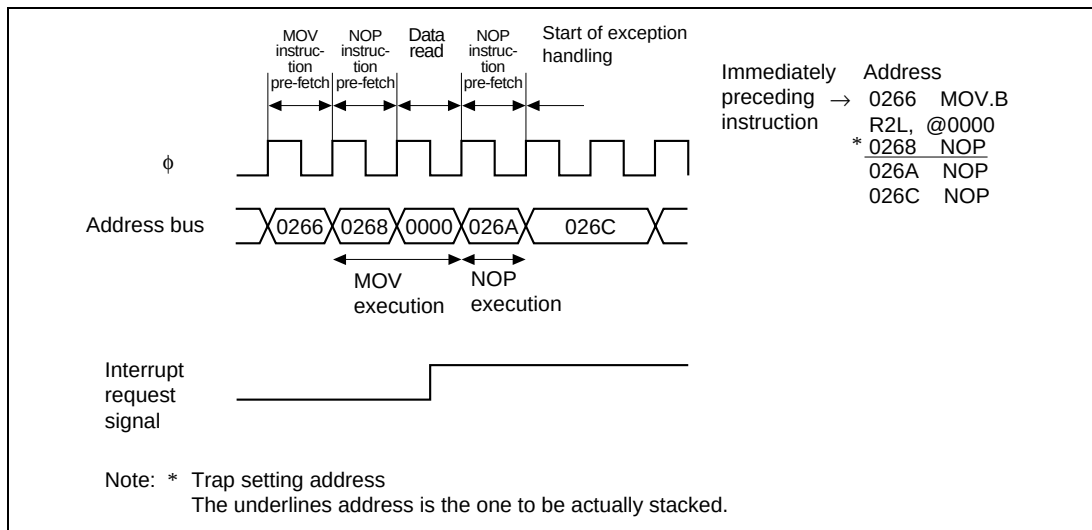

**Figure 25.3 Basic Operations (2)**
2. Figure 25.3 shows the operation when the instruction immediately preceding the trap address is that of 2 states or more of the execution cycle and the next instruction prefetch occurs in the second state from the last. The address to be stacked is 0268.